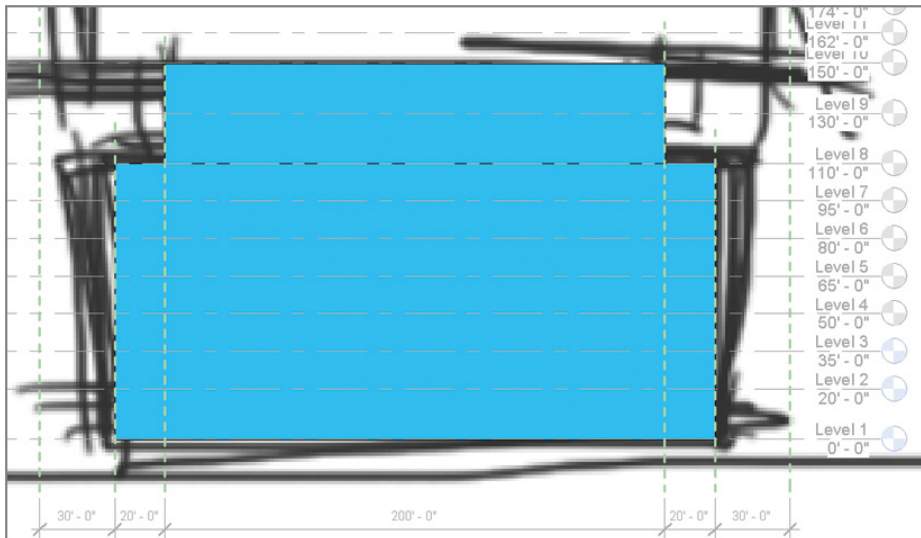

FIGURE 7.20 Second mass in place
3. Open the South elevation, and use the grip arrows to move the second mass form so the upper face aligns with Level 10. Use Wireframe to see through the first mass to the second mass. Select the lower edge and drag it so it aligns with Level 8, as shown in Figure 7.20.